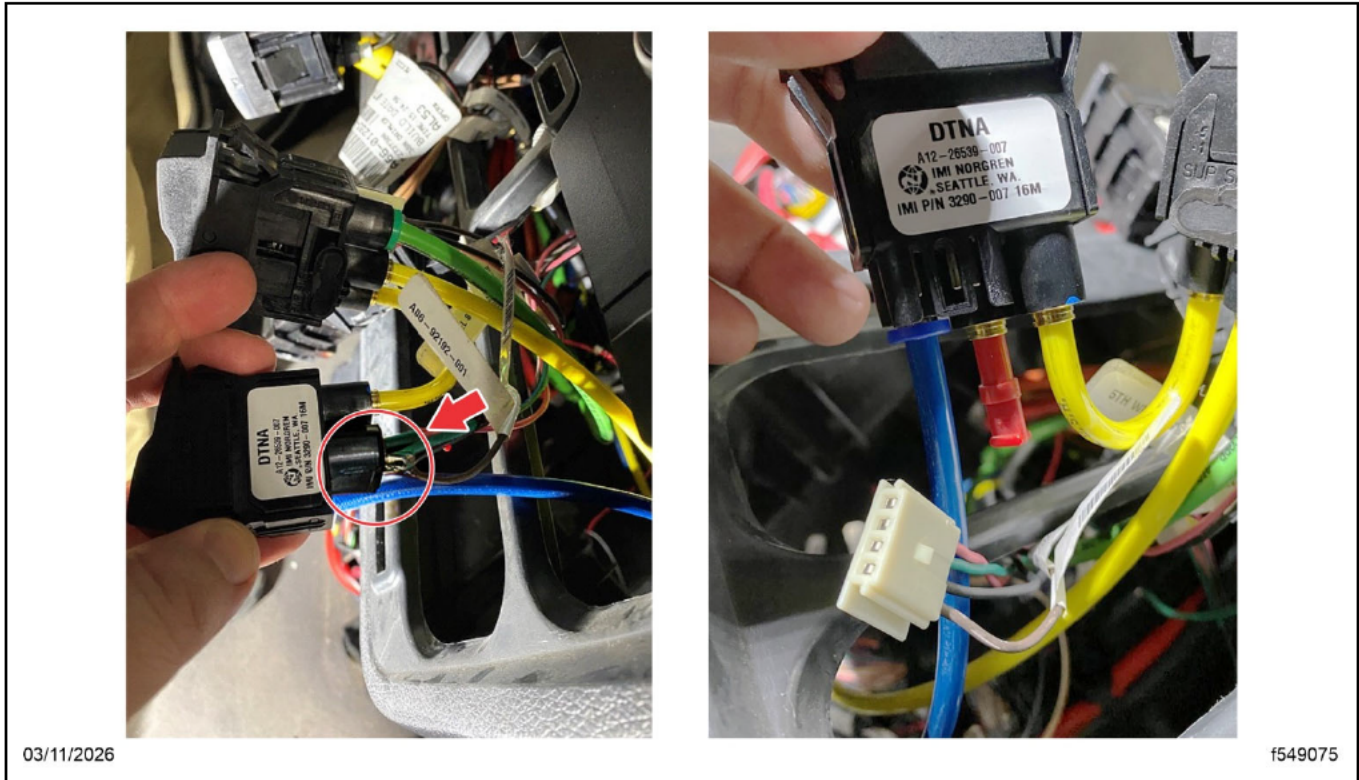

Fig. 1, Removing the Connector from the Switch
6. Remove the white connector from the back of the switch. See Fig. 1.